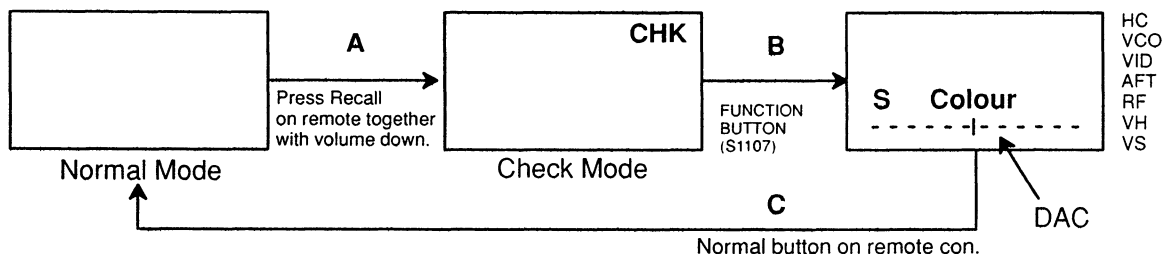

Fig. 9
The TV in the Normal mode changes to check mode. "CHK" will appear on the screen as shown in Fig. 9.
- B: Press the Function button (S1107) to select the required adjustment to be adjusted as shown in Fig. 9.